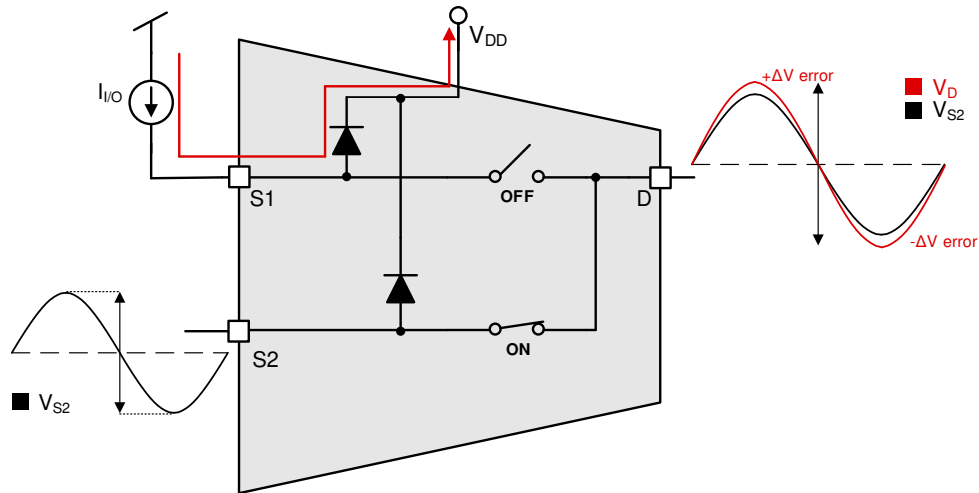

图 9-2. Injected Current Impact on  $R_{ON}$
**Change in  $R_{ON}$  due to Current Injection:** because the ON resistance of the enabled FET switch is impacted by the change in the supply rail, when the drain pin voltage exceeds the supply voltage by more than a  $V_T$ , an error in the output signal voltage can be expected. This undesired change in the output can cause issues related to false trigger events and incorrect measurement readings, potentially compromising the accuracy and reliability of the system. As shown in 图 9-2, S2 is the enabled signal path that is conducting a signal from S2 pin to D pin. Because there is an injected current at the disabled S1 pin, the voltage at that pin increases above the supply voltage and the ESD protection diode is forward biased, shifting the power supply rail. This shift in supply voltage alters the  $R_{ON}$  of the internal FET switches, causing a  $\Delta V$  error on the output at the D pin.